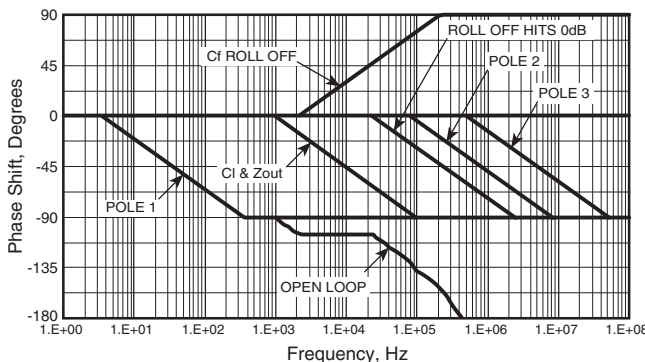

FIGURE 35.
STEP 5: The booster stage of the composite must be stable before we consider the overall composite amplifier. Booster circuit data was entered into the Cload sheet of the Apex Microtechnology Power Design spreadsheet. Initial indications were an intersection rate of 40dB per decade and a phase margin of only 19°. Figure 34 shows Power Design has already added the 150Ω amplifier output impedance to the 15Ω current limit resistor and calculated the pole with the capacitive load to be at 9.6KHz. The booster stage was compensated with C_f producing a closed loop pole (a feedback zero) at 21.3KHz. Do not be confused by sub-Hertz or multi-GHz entries in the table; these show up because the spreadsheet avoids division by zero errors by forcing extremely small values for non-existent capacitors. Refer to Figure 35 to see phase contributions of all elements added, closure frequency of 75KHz, closure rate of 20dB per decade, and a phase margin of 52°.